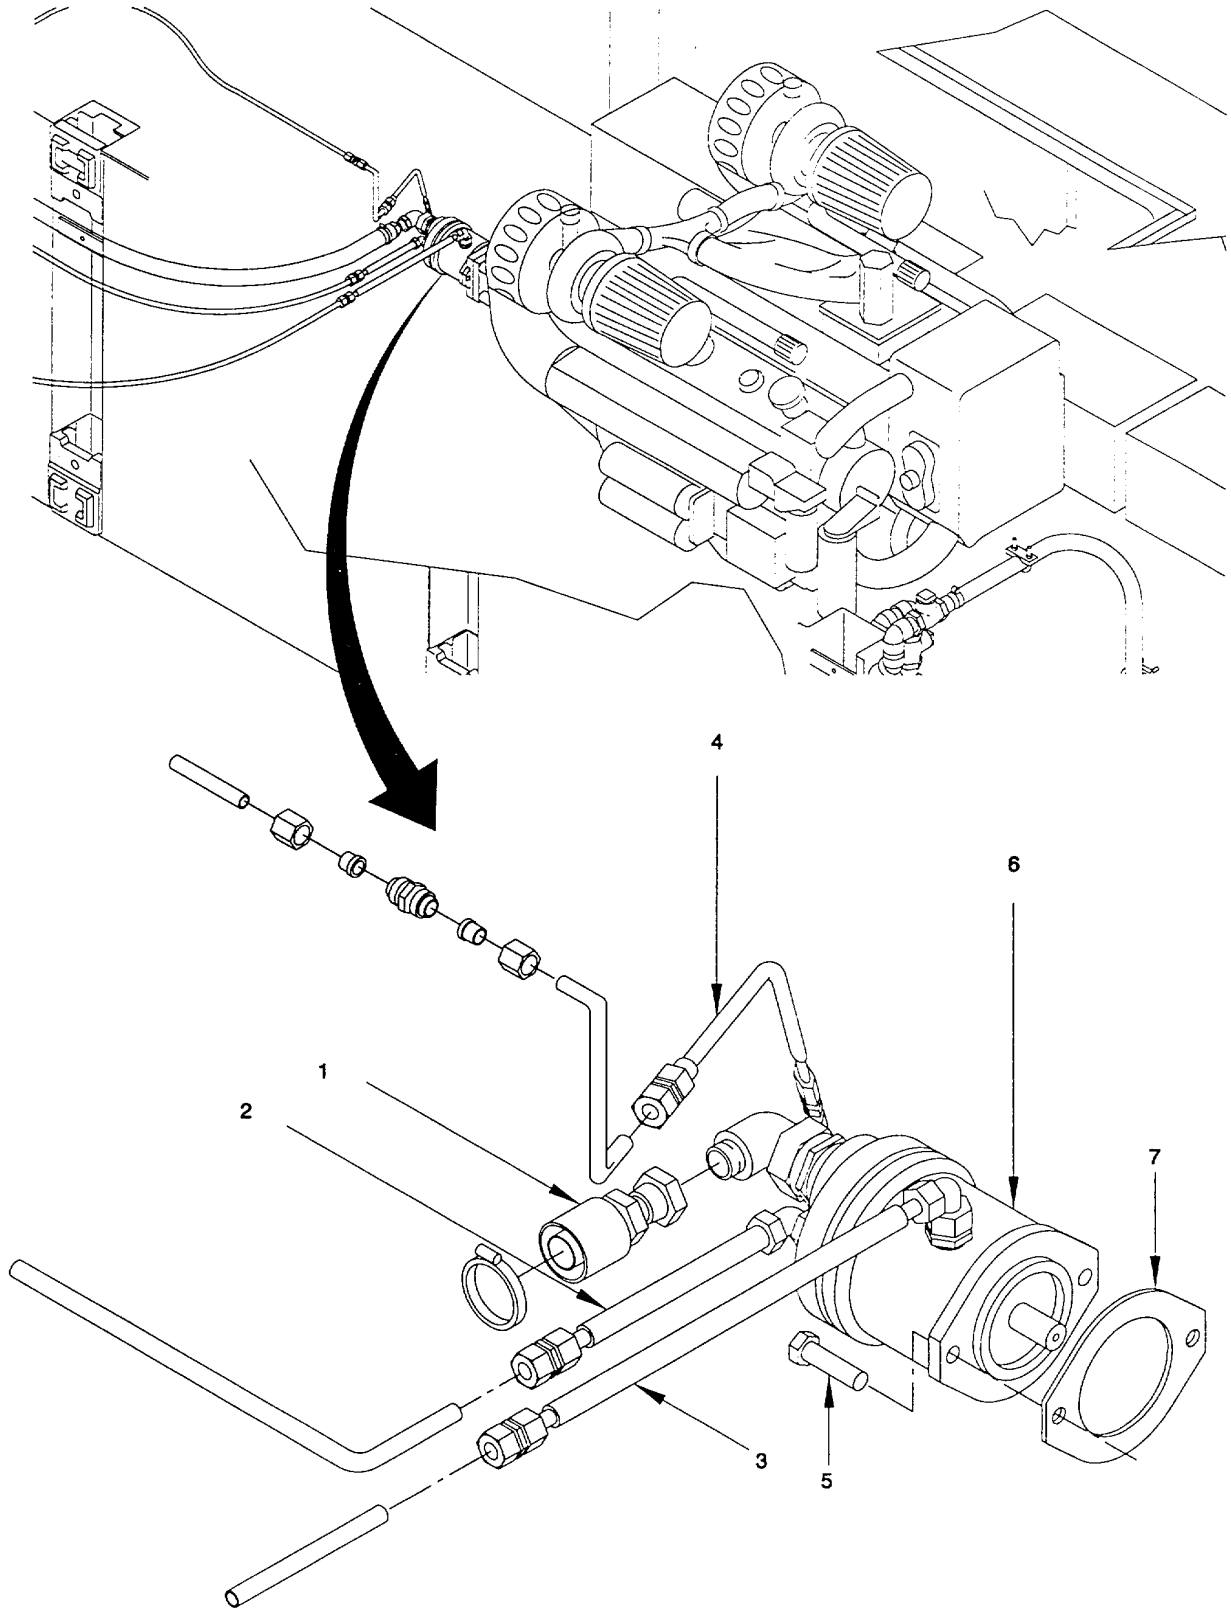

Figure 2-22. Hydro-Pump, Remove/Install.
a. Remove. (figure 2-22)
- (1) Position drain container below hydro-pump (6) and disconnect and cap the following tubes and hoses connected to the hydro-pump.
- (a) Hose L1 (1), from hydro-pump suction (port "a") to reservoir suction.
- (b) Tube L2 (2), from hydro-pump pressure (port "b") to pressure filter.
- (c) Tube L8B (3), from hydro-pump return line (port "C") to reservoir return line.
- (d) Tube L9 (4), from hydro-pump (port "r") to Way Valve.
- (2) Remove two capscrews (5) to separate the hydro-pump from Marine Gear.
- (3) Remove hydro-pump (6) and dispose of gasket (7).
2-29. Hydro-Pump (Cont).b. *Install.* (figure 2-22)